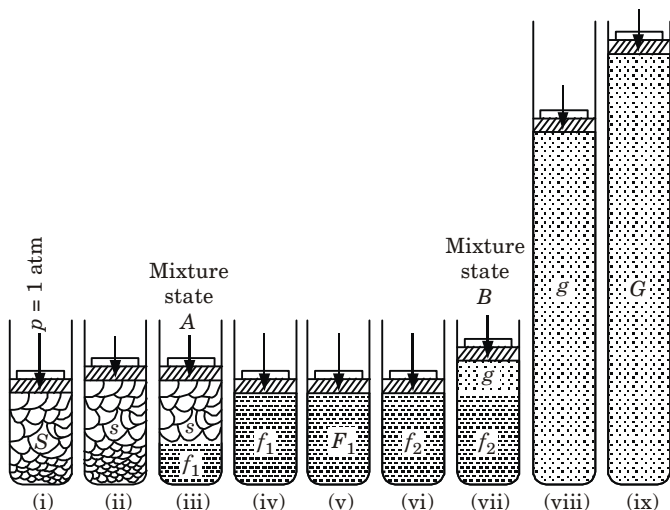
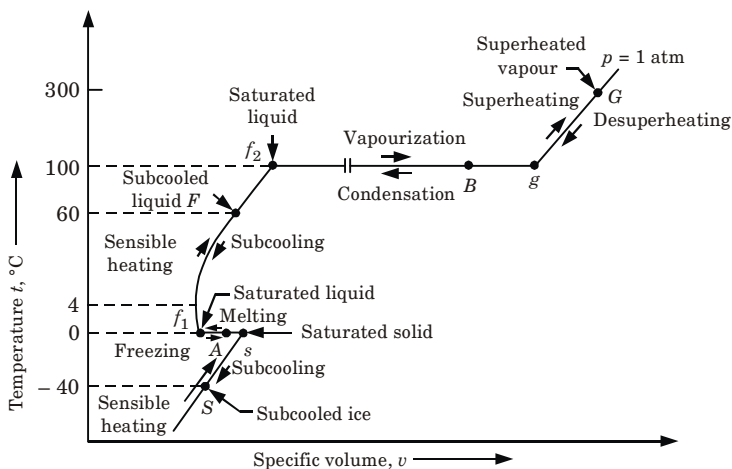

Fig. 4.2.1. Water in different thermodynamic states.
Fig. 4.2.2. Changes in state of water on heating and cooling at constant pressure on t - v diagram.
1. Consider one kg of water ice contained in a cylinder and loaded piston arrangement as shown in Fig. 4.2.1(i), such that the pressure on the ice is one atmosphere.
5. The changes that take place, in a stepwise manner, as depicted in Fig. 4.2.1, taken together with a temperature-specific volume plot of changes in Fig. 4.2.2, are follows :
2. At the end of this step, the ice is in state s as in Fig. 4.2.1(ii).
3. Until all the ice has melted to water as in Fig. 4.2.1(iv), in between such as at A in Fig. 4.2.2 there is a mixture of solid and liquid in equilibrium as shown in Fig. 4.2.1(iii).
4. It is seen from Fig. 4.2.2 that water-ice decreases in volume on melting. Normal substances increase in volume when changing from solid phase to liquid phase as shown in Fig. 4.2.1.
4. A state of liquid water in between this process of heating, say F at 60°C , is shown in Fig. 4.2.1(v).
5. After reaching 100°C (212°F) temperature the state is shown in Fig. 4.2.1(vi).
3. Until all the liquid water has evaporated to vapour at g as in Fig. 4.2.1(viii), in between such as at B in Fig. 4.2.2, there is a mixture of liquid and vapour in equilibrium as shown in Fig. 4.2.1(vii).
1. Further-heating of vapour at g causes its temperature to rise above 100°C , say to 300°C at G . The vapour at G , as shown in Fig. 4.2.1(ix), occupies a greater volume than the vapour at g .
3. In Fig. 4.2.2, we have melting of ice into water, process s - f_1 at 0°C , and vaporization of liquid water into water vapour (or steam), process f_2 - g at 100°C .